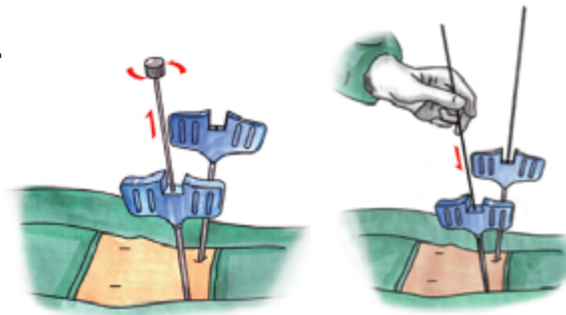

FIG 5a
- The bone positioning needle is inserted into the puncture needle. Bone positioning needle should be superimposed 35-40mm of puncture needle has been obtained for osseous fixation (FIG 5a). Bone positioning needle should be a little deeper than the tap (hollow).